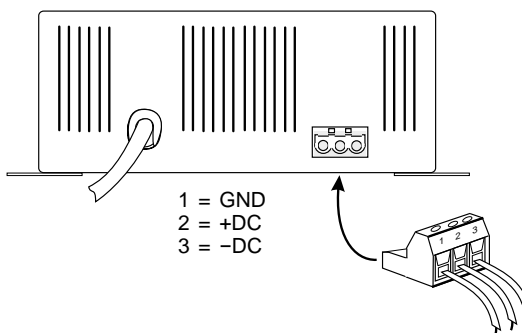

Figure 1 Model 713 cabinet showing 3-position plug-in terminal strip.
**3.6 DC OUTPUT CONNECTIONS** Before connecting to the DC output ensure that mains power is not connected. Be certain that the DC output LED is not lit. The DC-output connections are made via a 3-position plug-in terminal strip. The terminal strip is located on the bottom face of the unit, adjacent to the where the mains power cord exits the chassis, as illustrated in Figure 1. Remove the terminal strip by firmly grasping it with your fingers and pulling it straight away from the cabinet. Do not wire the terminal strip while it is attached to the power supply. Once it is removed, a small straight-blade screwdriver is required to loosen the clamp screws. The interconnecting wires are slipped into the openings of the terminal strip, and then the screws are tightened to secure the wires into place. A minimum wire gauge of #20 AWG or larger is recommended. (Remember that the smaller the AWG number, the larger its current rating.) Although not required, using a wire that is "heavier" than is technically necessary will help to minimize the resistance, and the resultant voltage drop, between a power source and the equipment being powered. After the wires are secured into the terminal strip, plug it back into the socket on the Model 713. Ensure that the terminal strip is firmly mated with the socket.